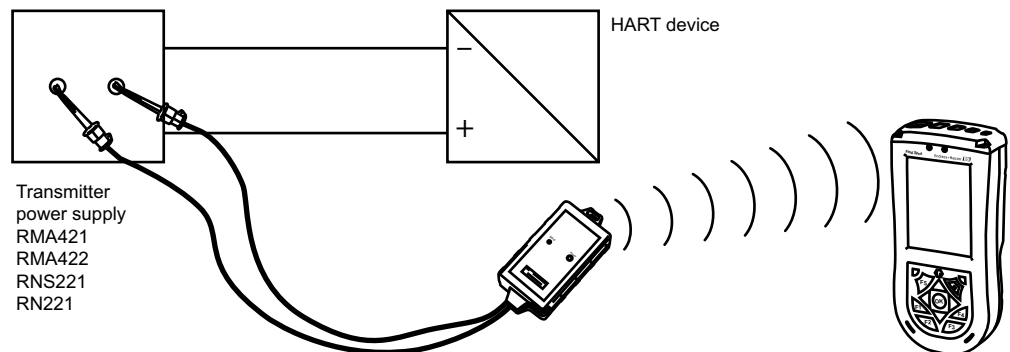

Fig. 3-3: Connection via a transmitter power supply with HART communication sockets (internal load resistor)
- With a transmitter power supply with built-in HART communication resistor, via the two HART communication sockets on the front panel as shown in Fig. 3-3. Suitable HART transmitter power supplies are: